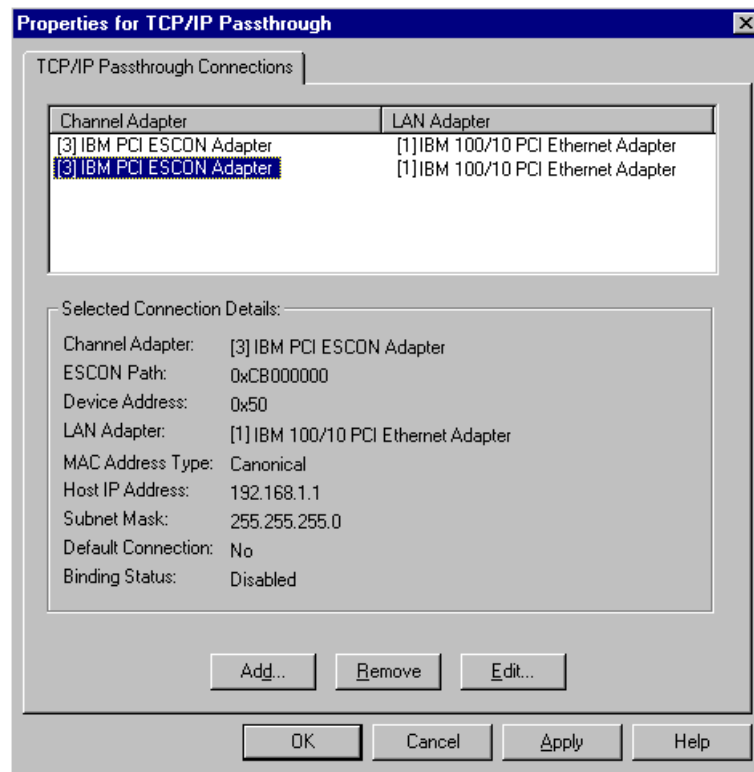

Figure 15-24. TCP/IP Subchannel Configuration
2. Click on **Properties**. Verify the subchannel addresses match the ESCON and mainframe configurations (Figure 15-24). Remember that each TCP/IP connection requires two subchannel addresses. If your TCP/IP Passthrough configuration has subchannel 50 defined, your ESCON and mainframe configurations must have both subchannel 50 and 51 defined.